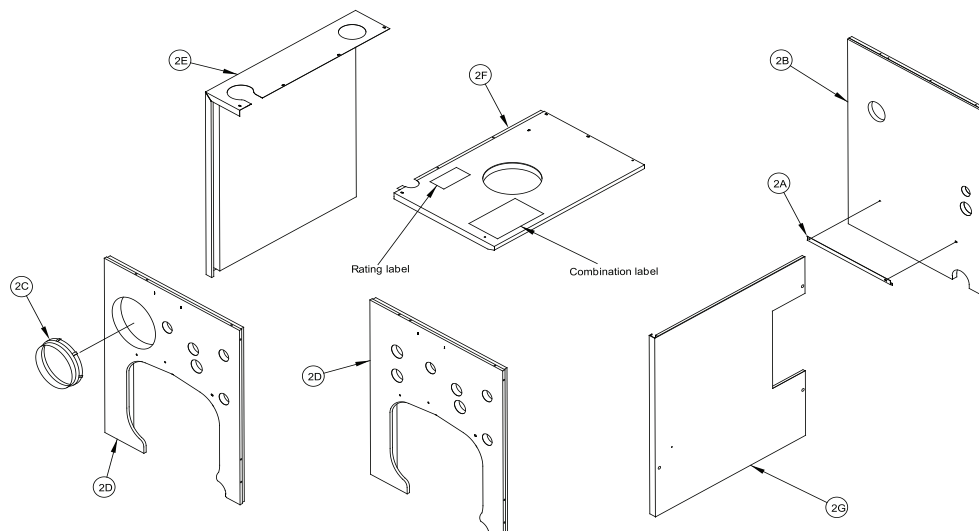

Figure 6: Knockdown Boiler Jacket Assembly
K. INSTALL BOILER JACKET. (See Figure 6).
- Install jacket rear panel support bracket. (See Figure 6, Item 2A). Align bracket with two (2) 5/16"-18 tapped holes in rear section and secure with two (2) 5/16"-18 x 1/2" long cap screws.
- Install jacket rear panel. (See Figure 6, Item 2B). Align holes in jacket rear panel and support bracket. Secure with two (2) #8 x 1/2" long sheet metal screws.
- Install black plastic collar extension to jacket front panels for 7-13/16" diameter tankless heater opening. (See Figure 6, Items 2C and 2D). Engage two (2) of the collar retaining tabs over raw edge of jacket opening. Provide support behind the panel with one hand while applying pressure on collar to snap each tab over edge of opening until all eight (8) tabs are securing collar.
- Install jacket front panel. Locate two (2) 11/32" diameter holes, one round, one obround, on front panel approximately 16" up from the bottom of the panel. Align these holes with the similarly located 5/16"-18 tapings on the front section. Secure with two (2) 5/16"-18 x 1/2" long cap screws.
4. Install jacket left side panel. (See Figure 6, Item 2E). Fold panel at perforation keeping insulation inward. Align left side panel mounting holes with the front and rear panel holes. Secure with #8 x 1/2" long sheet metal screws.
5. Install jacket top panel. (See Figure 6, Item 2F). Place jacket top panel on boiler and secure to front, rear and left side panels with #8 x 1/2" long sheet metal screws.
6. Install jacket right side access panel. (See Figure 6, Item 2G). Align right side panel mounting holes with front and rear panel holes. Secure with #8 x 1/2" long sheet metal screws.
- a. Locate both the Rating Label and Combination Warning Label (P/N 102801-03). Remove paper backing from the labels and apply to the jacket top panel in approximate locations shown in (Figure 6, Item 2F).